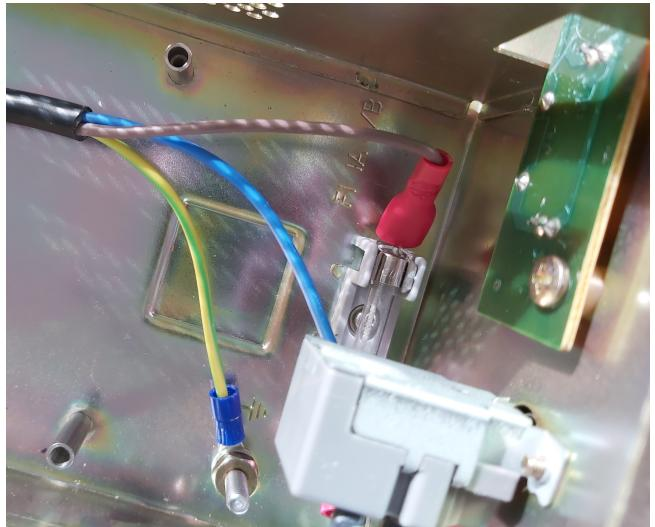

Figure 4.3: Connect the Ground (green) and Live (brown) wires.
4. Firmly push the spade connector onto the fuse holder terminal. Loop the ring connector over the vertical ‘ground’ post and secure it in place with a nut (as shown in Figure 4.3). Note that the fuse itself does *not* need to be replaced.